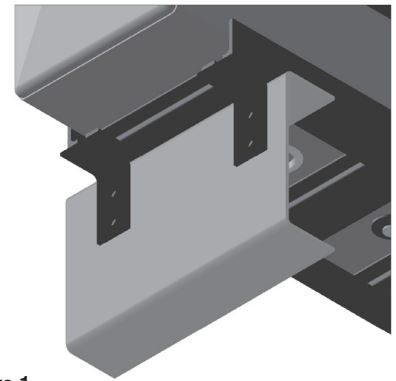

Figure 1
2. Position chassis mounting angles so that the double pre-drilled holes are positioned against the frame rail and the single $\frac{1}{16}$ " hole is positioned upward against the tank mounting angles. (See Figure 1)